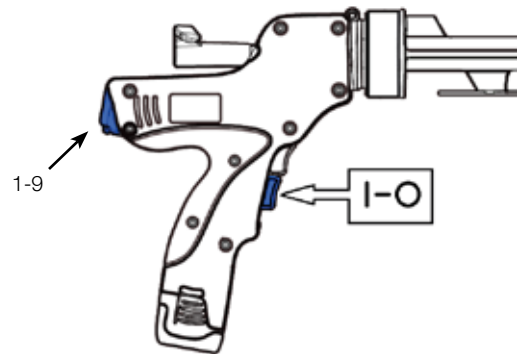

Figure 4
4. Dose Setting – the ChemPower Dispenser is equipped with a dose feature controlled by the dial on the back of the tool see figure 4. This feature allows for consistent dispensing of material in multiple applications. The user can set the *desired amount of material required to be extruded into the hole for there selected stud anchor and embedment depth.